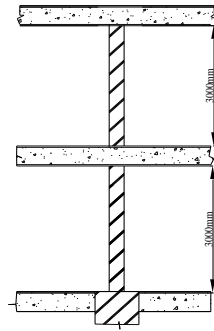

Figure-1
1. Estimate the dimension of an interior cross wall of a two storeyed building shown in figure-1 to carry 100mm thick RCC slab with 3.0m ceiling height. The wall is unstiffened and it supports a 2.5m wide slab.